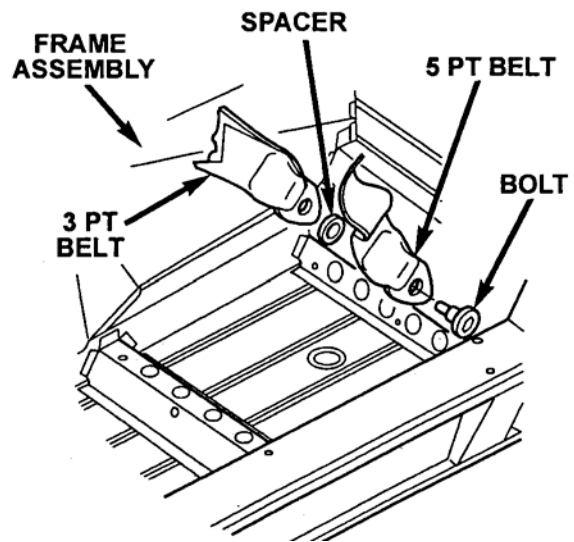
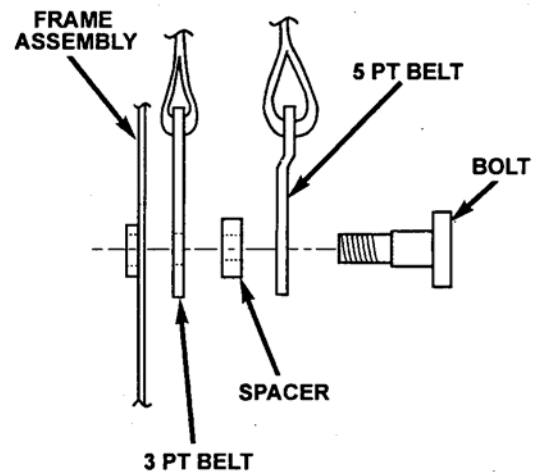

Figure 3 – Left Side Shown
Figure 4
6. Remove the inboard lower driver's seat belt anchor bolt from the frame (Figure 3). Remove the 5-point harness inboard lap belt from the vehicle. Do NOT remove the 3-point seat belt anchor. Set the 5-point harness lap belt and anchor bolt aside for return to the Material Return Center.
7. Install the new 5-point harness inboard lap belt on one of the supplied anchor bolts. Install a new anchor spacer on the bolt so that it will be located between the two seat belt anchors (Figure 4). Install the anchor bolt through the 3-point seat belt anchor and into the frame (Figure 3). Tighten the anchor bolt to 350 in-lbs (40 N·m).